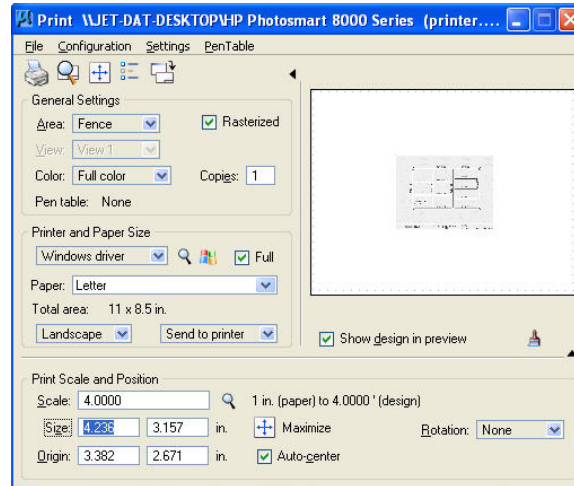

Figure P10–2 Print settings box
STEP 4: Refer to Figure P10–2 and set the appropriate settings.
STEP 5: Invoke **Print Attributes** from the **Settings** menu on the Print dialog box and turn OFF the **Plot Border** and **Fence boundary** checkboxes, as shown in Figure P10–3. Click **OK** to close the dialog box.